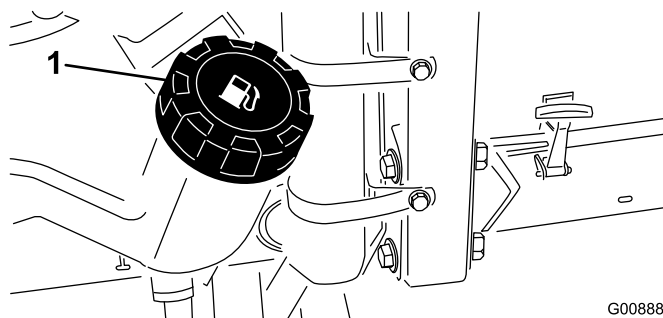

Figure 37
1. Clean the area around the fuel tank cap (Figure 37).